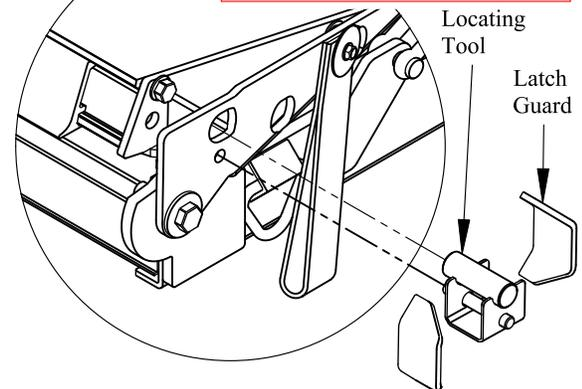

Figure 3: Locate latch guards.
7. **Insert** the Locating Tool where the Latch Knob was removed (Figure 3).
8. **Tack** each Latch Guard using the Locating Tool as a guide (Figures 3 and 4).